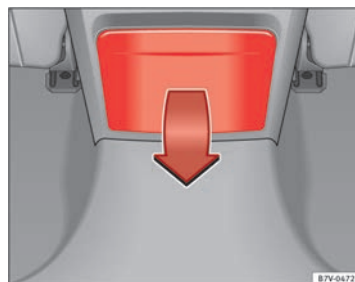

Fig. 117 Centre console, rear section: folding out the cup holder.
- To *open*, move the cup holder downwards in the direction of the arrow ⇒ fig. 117.